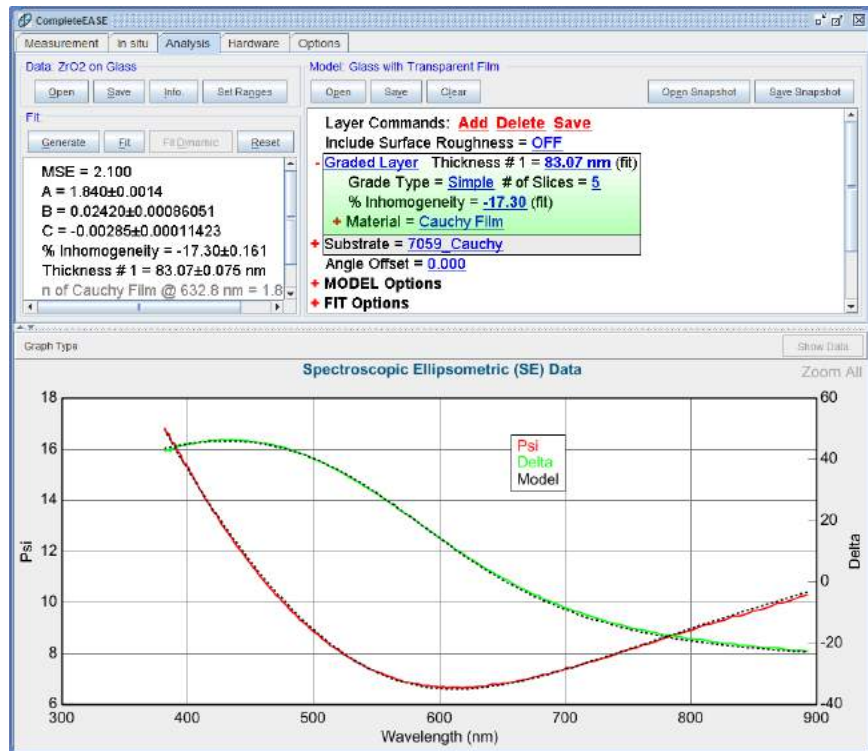

Figure 3-55. Fit to “ZrO2 on Glass” data with index Grading ON.
- Press ‘Fit’ and the results will appear as in Figure 3-55.